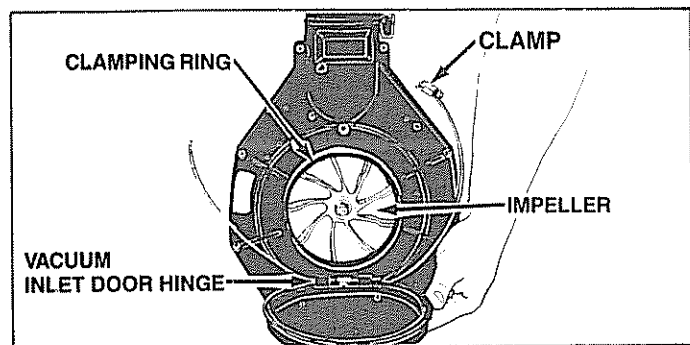

Figure 3
5. Hold open the vacuum inlet door and slide one end of the open clamp under the vacuum inlet door hinge and around the clamping ring on the housing as shown in Figure 3.